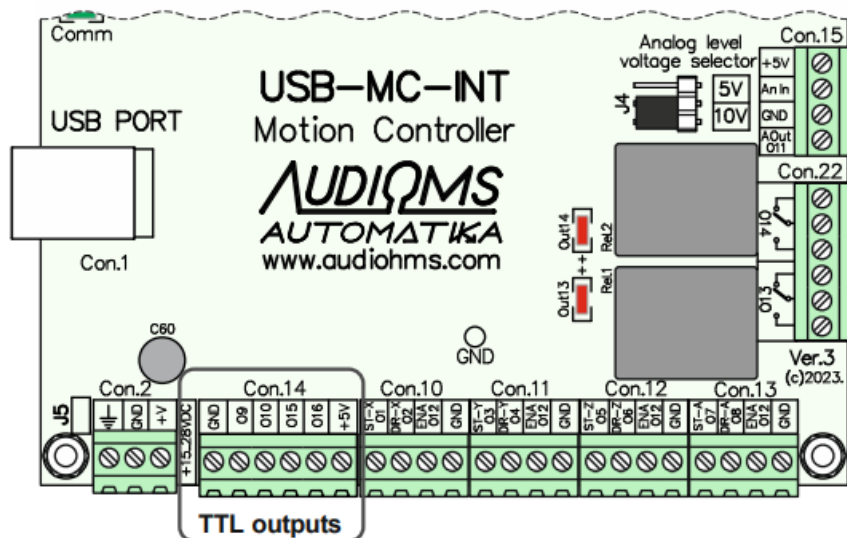

Figure 8.23 Location of general purpose digital outputs
- USB-MC-INT motion controller also has 4 TTL digital outputs for general purpose. These are marked as O9, O10, O15, and O16 and are available on connector Con.14 (Figure 8.23).